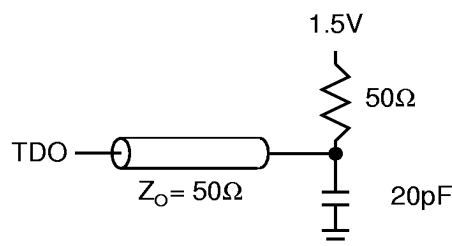

Figure 7
- Test conditions are specified using the load in Figure 7.